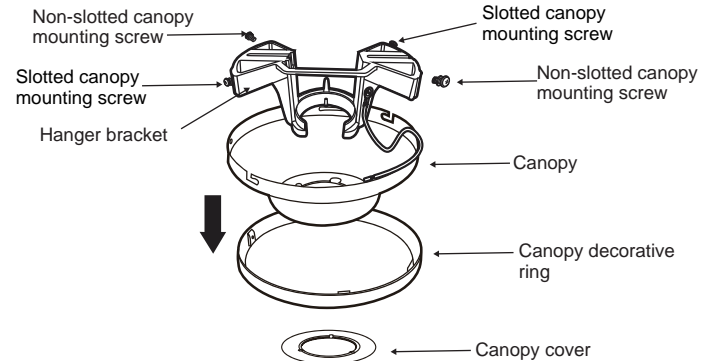

Fig. 7
(Fig.7)
Step2. Remove canopy cover from the canopy by turning the cover counter clockwise. (Fig. 7)